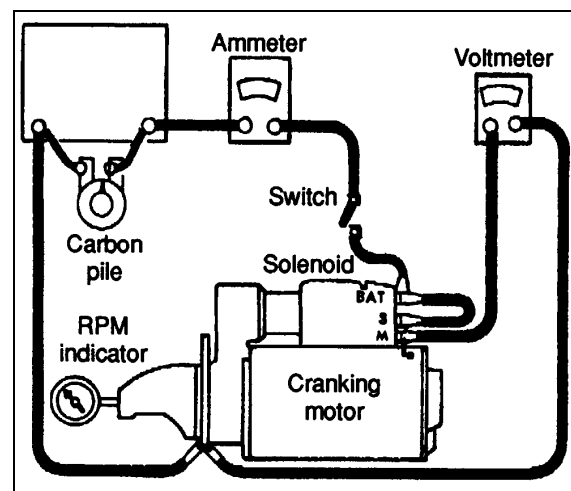

FIGURE 35: STARTING MOTOR TEST CONNECTIONS
Before disassembly of the starting motor, the following check of starting motor operation should be done to determine any condition that may require special attention during overhaul. Make test connections to the starting motor as in figure 35.
Connect the starting motor in series with fully charged batteries to give 24 volts, an ammeter capable of reading several hundred amperes and a variable resistance. Also connect a voltmeter as illustrated in figure 35 from the solenoid motor (M) terminal to the starter frame. A rpm indicator is necessary to measure armature speed. Proper voltage can be obtained by varying the resistance unit.